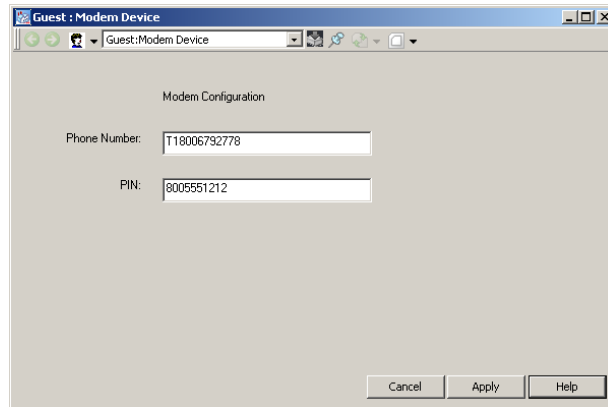

Figure 103. TAP/Modem Device
20. Enter a valid PIN for this user in the PIN: field to produce a view similar to the one shown in Figure 103.